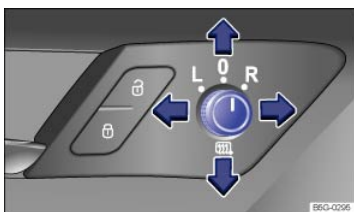

Fig. 89 In the driver door: Adjusting knob for the outside mirrors.
- Turn the rotary knob in the driver door ⇒ Fig. 89 to the desired position: